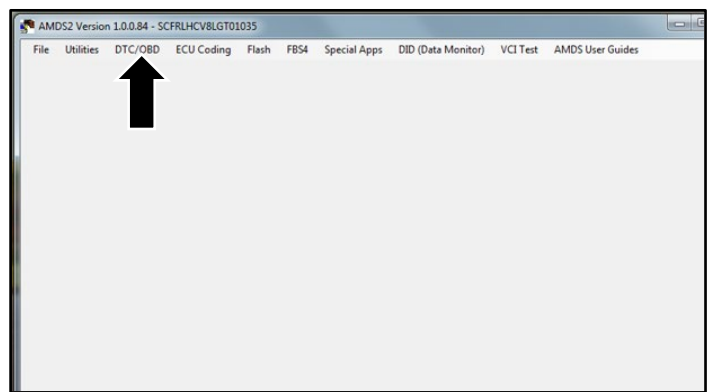

Figure 5
8. Click the “DTC/OBD” button (refer to Figure 5).